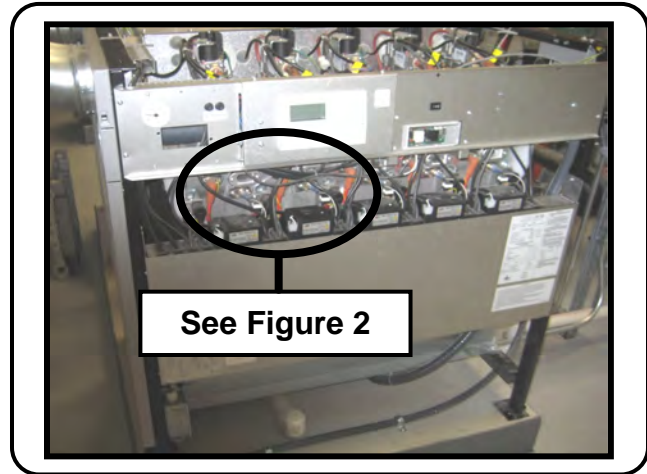

Figure 1: Cover Removed (Rear)
5. Remove the front panel from the boiler to provide access to the spark igniter and flame detector for each heat module of the boiler (see **Figure 1**).